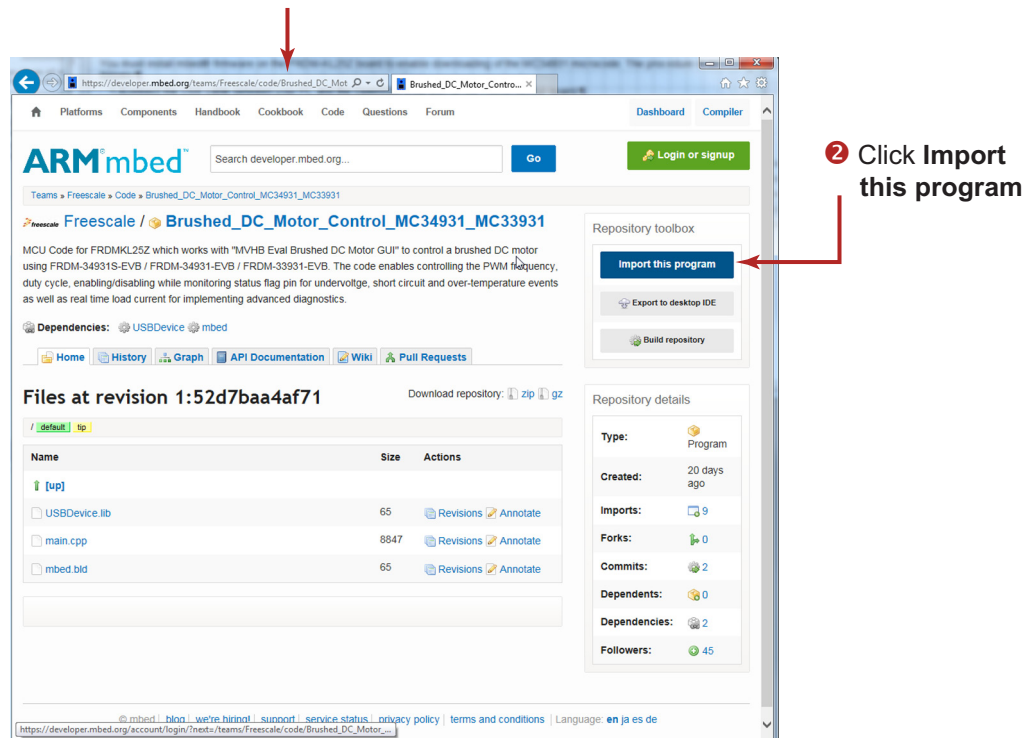

Figure 15. MC34931/MC33931 mbed Import Screen
3. Log into your mbed account. (If you do not have an mbed account, you must create one.) After logging in, you will be returned to the screen in Figure 15. Click on **Import this program** again.